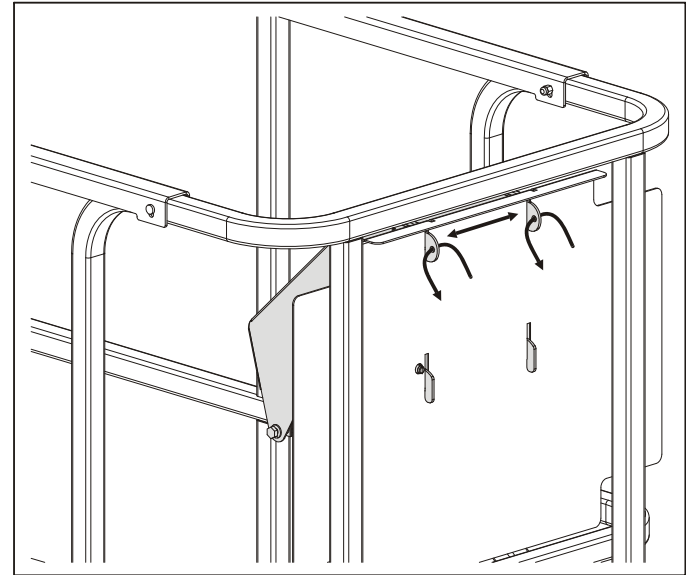

Figure 3-9. Securing Control Station to Platform
6. Turn the power selector switch to "Off" and remove the key to disable the machine and prevent unauthorized use. The platform control station can also be secured to it's mounting plate, see Figure 3-9.